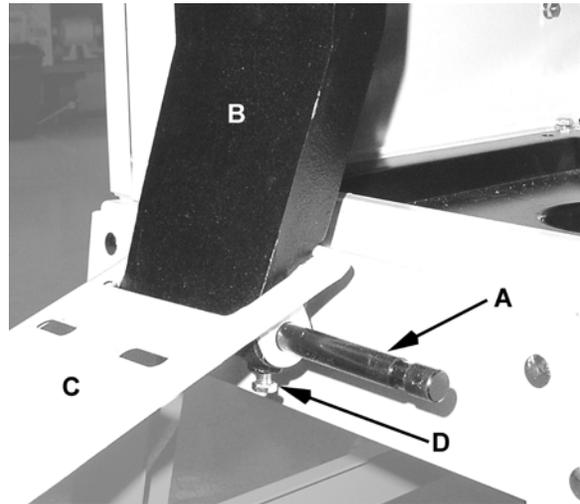

Figure 21
2. Remove the motor plate shaft (A, Fig. 21) from the motor bracket (B, Fig. 21).
4. Insert the motor plate shaft (A, Fig. 21) into the motor plate and through the motor bracket until it passes through the motor plate on the opposite side. Make sure that the groove on the motor plate shaft lines up with the hex cap screw (D, Fig. 21) on the motor bracket.
5. Tighten the hex cap screw (B, Fig. 21) on the motor bracket to secure the motor plate shaft.